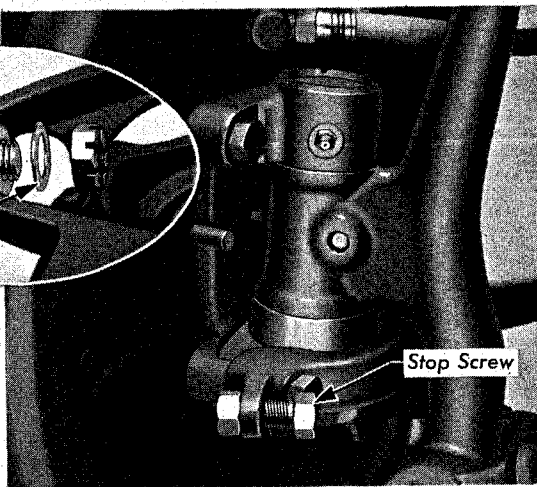

Fig. 13 Steering Stop Screw Adjustment
2. Turn the steering wheel two complete revolutions to the right and adjust the right hand stop screw until it rests against the stop. Plate 10, Fig. 13 shows the stop screw for series 37-65 and 70 cars.